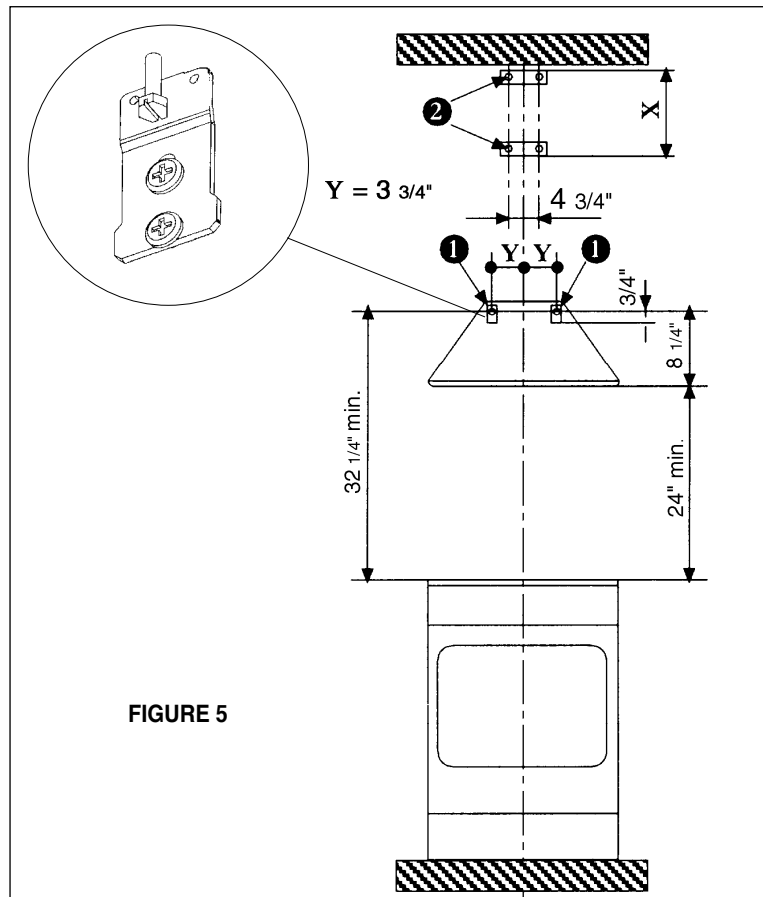

FIGURE 5
3. The canopy attaches to the wall by two mounting brackets (1 in FIGURE 5). The canopy of the rangehood hangs on the two brackets which must be mounted with the flanges on the top of the bracket and pointing away from the wall. Before installing the brackets, the adjustment screws must be installed into the bottom of the bracket. These two screws are provided in the hardware package and have hexagon heads with a slot for a flat blade screwdriver. The dimensions illustrate mounting the canopy 24" above the cooking surface.
4. The chimney mounts by two brackets (2 in FIGURE 5). Note the position of the brackets. The top bracket should be installed about 1/8" away from the ceiling. The bottom bracket must be installed at the bottom point of the upper chimney sleeve.